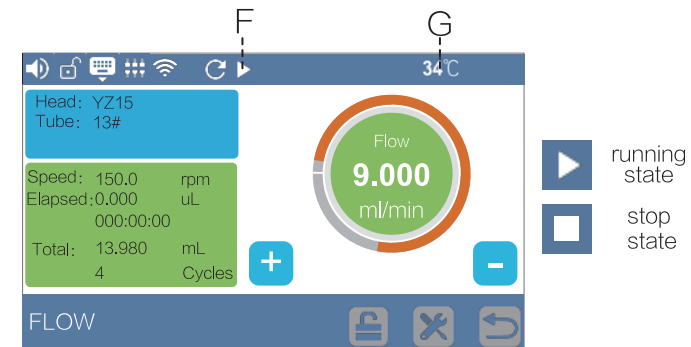

Figure 9 When the Pump is Running Clockwise
G. Temperature Display: Display the current internal temperature of the drive, as shown in Figure 9 above, the current temperature of the drive is 34°C.